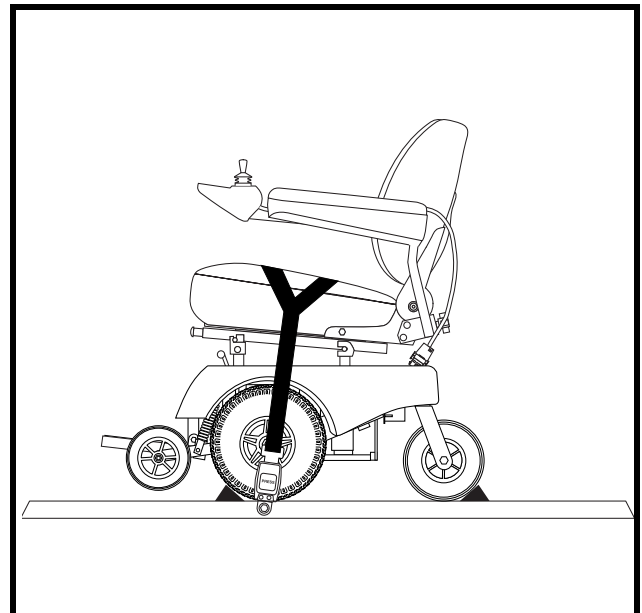

Figure 8. Y-Strap Positioning
4. Secure the mobility device to the platform by draping the Y-strap over the seat and buckling the strap securely. See figure 8.